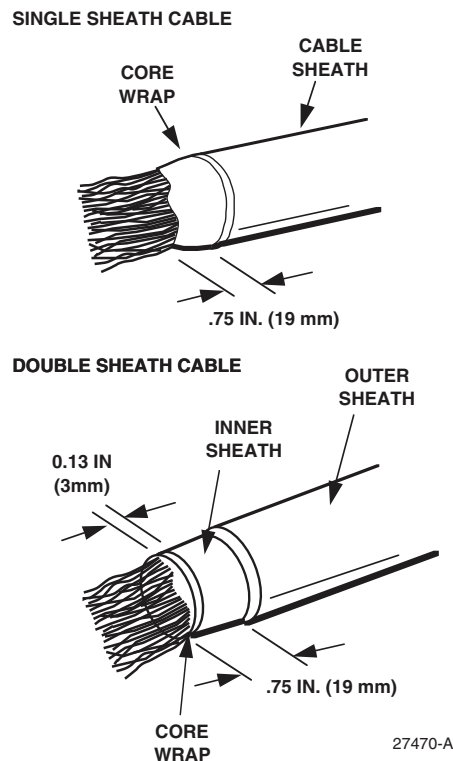

Figure A-2. Cable Preparation
2. Prepare the cable by cutting the shield flush with the outer cable sheath as shown in Figure A-2. If the cable has a double sheath, cut only the outer sheath and shield leaving the inner sheath intact as shown.